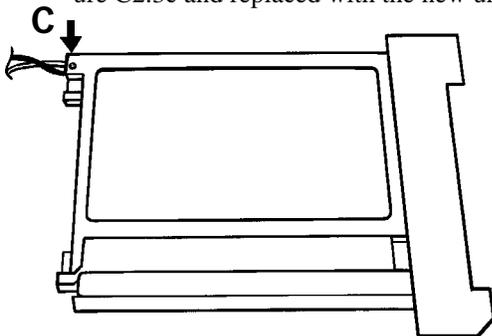

Figure C2.3b Display removal (2)
- Turn the unit over, and remove the securing screw ('C' in figure C2.3b).